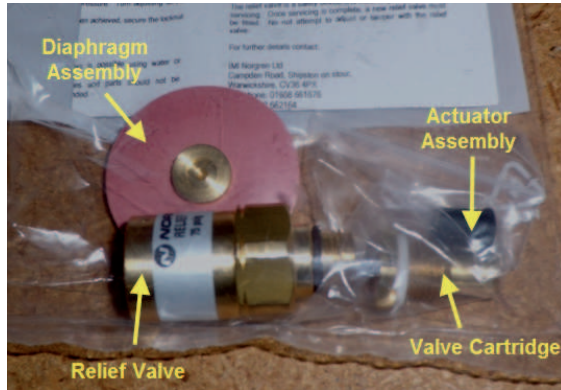

Figure 75 - Regulator Service Kit
6. Fit the regulator parts from the Service Kit (Figure 75).